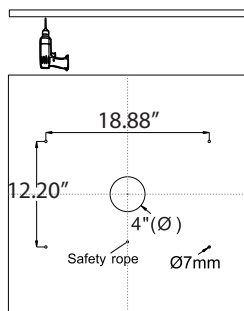

Figure 3
3. Drill the installation hole accordingly on the ceiling. (Figure 3)